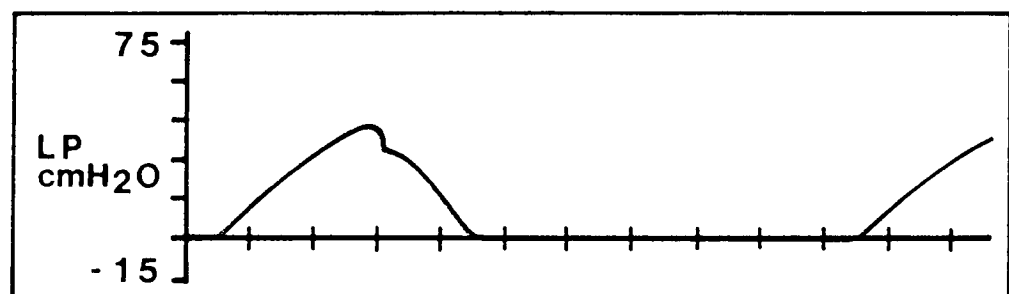

Figure 3.6.7.3-1. Lung Pressure Waveform Display
4. Press LUNG PRES. The graphic display shown in Figure 3.6.7.3-1 should appear: